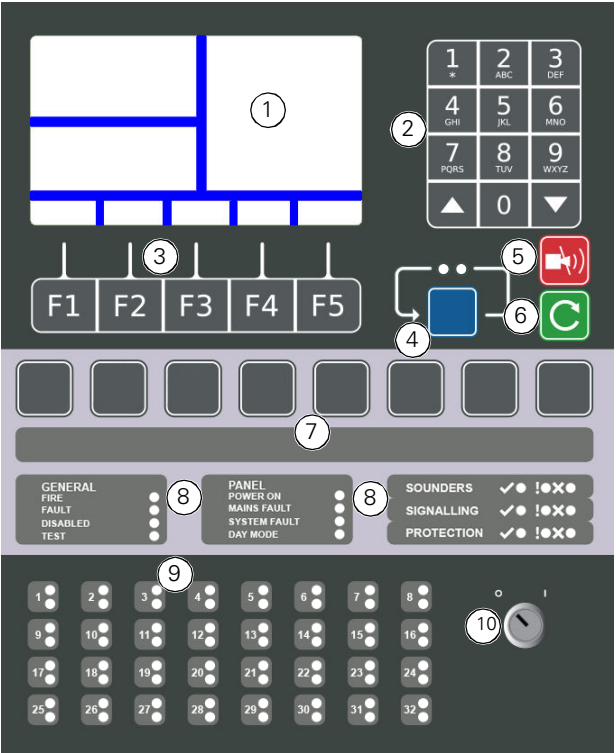

Fig. 1: Pro215 Lite or Pro415 Lite front panel
The front panel is shown in Fig. 1. The numbered items in the figure are explained in the following paragraphs. Your panel version may not match the figure exactly, but the same items will be present, although perhaps not in the positions shown.
- 2 An 'UNEXPECTED RESTART' message displays and the general fault LED lights up. To clear the error, press the green **RESET** key (see Fig. 1). A 'Reset in progress' screen displays.